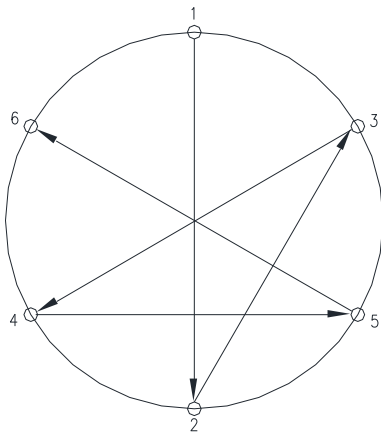

Figure 9-3 Tightening Sequence
2. Follow a crisscross pattern (Fig. 9-3) and tighten all bolts until 1/3 of the specified torque in Table 9.2 is reached.